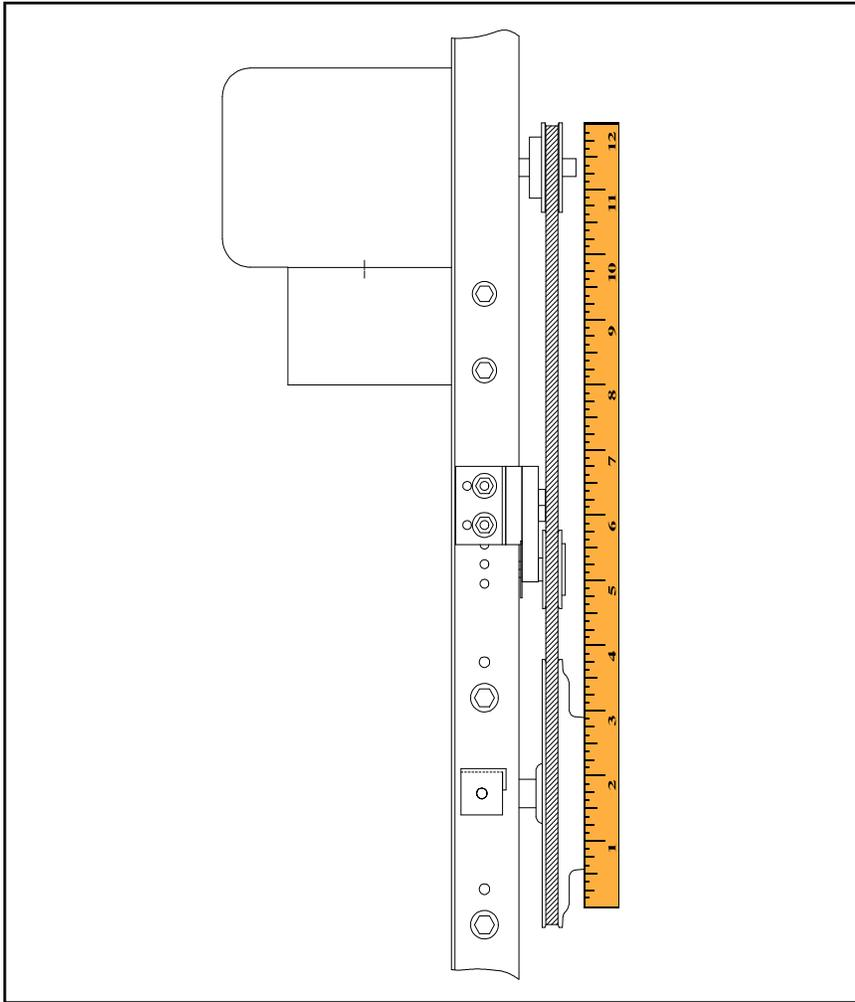

Figure 8 — Detailed View of Properly Aligned Fan Sheaves
Spin the blade assembly by hand. Make sure that the blade assembly rotates freely and did not shift during shipment. If the blades rub in either side of the fan orifice, it will be necessary to loosen the two (2) 3/8" bolts that secure the blade assembly's hexagonal shaft to the fan x-braces, center the blade assembly, and tighten the bolts to 25-30 ft-lbs torque. If the blades rub in the fan orifice at the top or bottom, it will be necessary to loosen the four (4) 3/8" bolts that secure the fan x-braces to the fan uprights, center the blade assembly, and tighten the bolts to 25-30 ft-lbs torque. Next, the fan drive assembly should be checked for alignment. The fan drive assembly must be aligned for proper fan performance and to minimize pulley and belt wear. Before wiring and operating the fan, check that the drive pulley, driven disc and auto belt tensioner are aligned by using a straight edge such as a scale or yard stick. If an adjustment is necessary, loosen the set screw on the motor pulley and adjust to proper alignment. Make sure to retighten the motor pulley set screw before the fan is operated. See Figure 8.